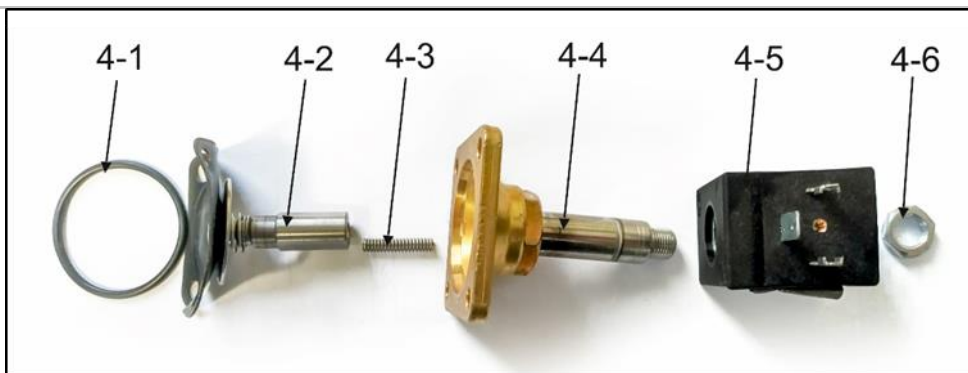

Fig. 32: Solenoid valve assembly
- Unscrew the 1 screw from the valve connector (1).
- Disconnect the valve connector (2).
- Unscrew the 4 screws (3).
- Remove the solenoid valve (4).
- Install the solenoid valve (Fig. 32).
- Install the new solenoid valve using the 4 screws (3) and use a thread locking adhesive on the threads of the screws (such as Loctite 243).
- Reattach the solenoid valve connector and attach with a screw (1).